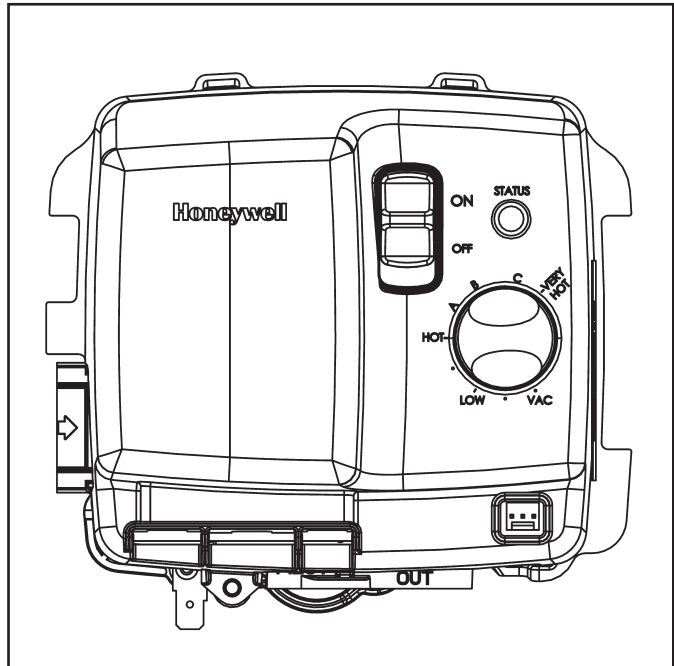

Figure 3. Temperature Adjusting Dial
The water heater temperature adjusting dial is factory set at the lowest temperature, all the way counter-clockwise to the mechanical stop, unless specified differently by provincial or state regulations. See **Figure 3**. It is adjustable and must be reset to the desired temperature setting to reduce the risk of scald injury. Turning the dial clockwise will increase the temperature and counter-clockwise will reduce the temperature. The HOT marking on the Honeywell gas valve is indicative of approximately 120°F (49°C) and is the preferred starting point. Some states have a requirement for a lower setting. Should overheating occur or the gas supply fails to shut off, turn "OFF" the manual gas control valve to the water heater.
1. Set the gas control valve/thermostat to its lowest setting by turning the knob counter-clockwise to the VAC point. See *Figure 3* (page 6).
2. Turn gas control switch to the "OFF" position and turn "OFF" the gas supply to the unit. See *Figure 3* (page 6).
8. Turn the gas control switch to the "ON" position. See *Figure 3* (page 6).
1. Set the gas control valve/thermostat to its lowest setting by turning the knob counter-clockwise to the VAC point. See **Figure 3** (page 6).
2. Turn gas control switch to the "OFF" position and turn "OFF" the gas supply to the unit. See **Figure 3** (page 6).
9. Turn the gas control switch to the "ON" position. See **Figure 3** (page 6).